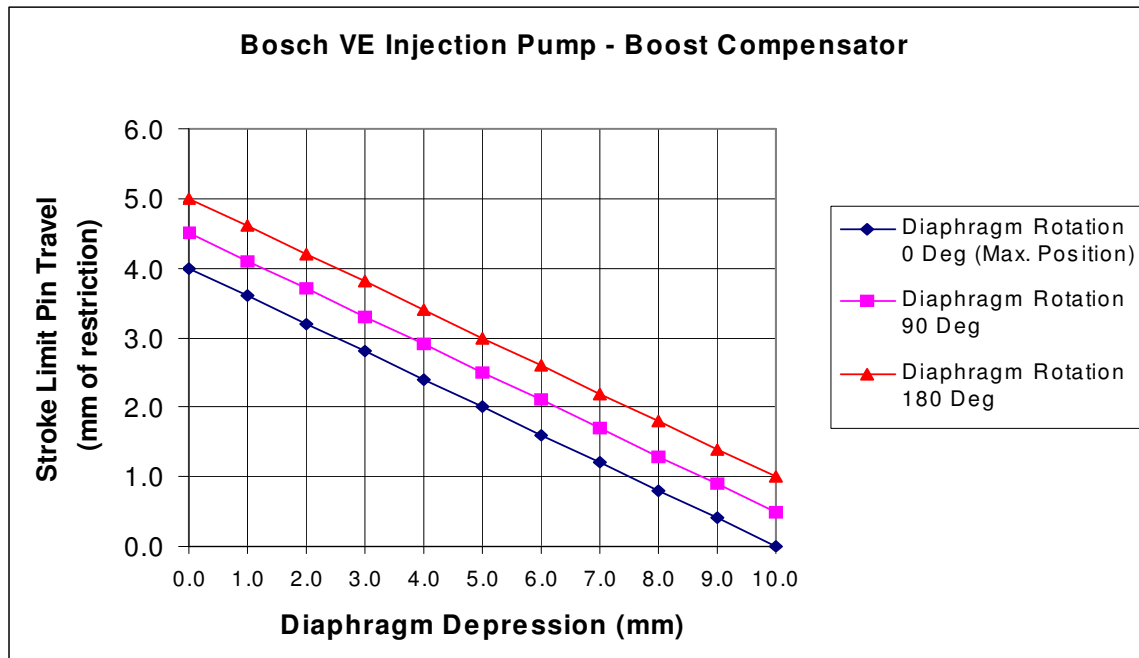

Figure 5
- 1.6. The chart, Figure 5, shows the approximate relationships between the diaphragm rotational position and it's effect on stroke limit pin position. *[The dimensions listed are approximations to the nearest millimetre from measurements taken from my 13H assembly and should not be taken as precise nor completely accurate.]*
Therefore, as shown in Figure 5, the stroke limit pin will move about 4.0mm as the diaphragm/control cone moves downward over it's 10.0mm of travel. This 4.0mm of travel may be varied from the '0.0 to 4.0mm' range to the '1.0 to 5.0mm' range by rotating the diaphragm up to 180 degrees from the 'maximum' position. As the diaphragm/control cone is symmetrical, it doesn't matter which way it is rotated from the 'maximum' position. Also note that 180 degrees of rotation ($\frac{1}{2}$ turn) represents the full range of adjustment available.